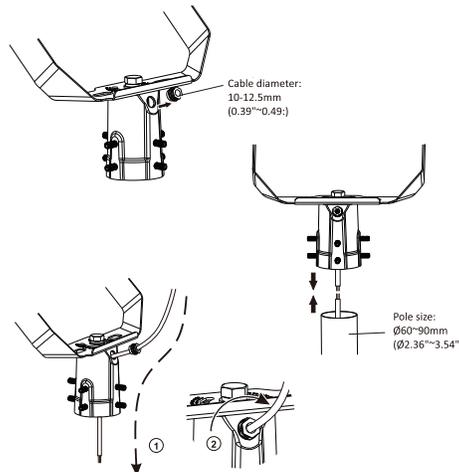

Fig. 16
3. Insert external power cord into the cable gland located on the slip fitter (Fig. 16). Make wiring connections (refer to wiring diagram on page 1).